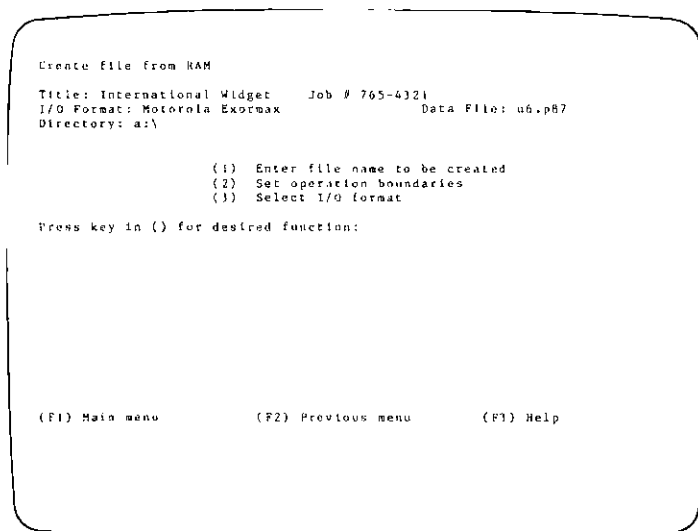

Figure 3-12. Create File From RAM Menu
The *Create File from RAM* menu (figure 3-12) displays the system status and allows you to create a computer data file from data contained in the programmer RAM. This menu allows you to create a file (1), to set operation boundary addresses (2), or to select the I/O format (3). PROMlink will prompt you for the name of a computer data file that will contain the RAM data if you press 1. The file name may contain a drive specification and path in addition to the file name and extension. If you specify a file that already exists, you are given a choice of writing the RAM data on top of the data currently in that file (replacing it) or entering a different file name.